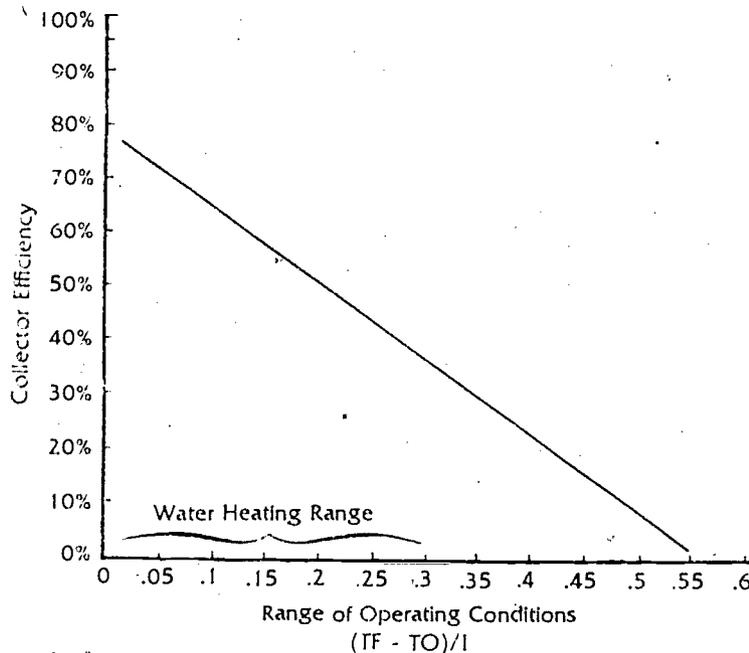
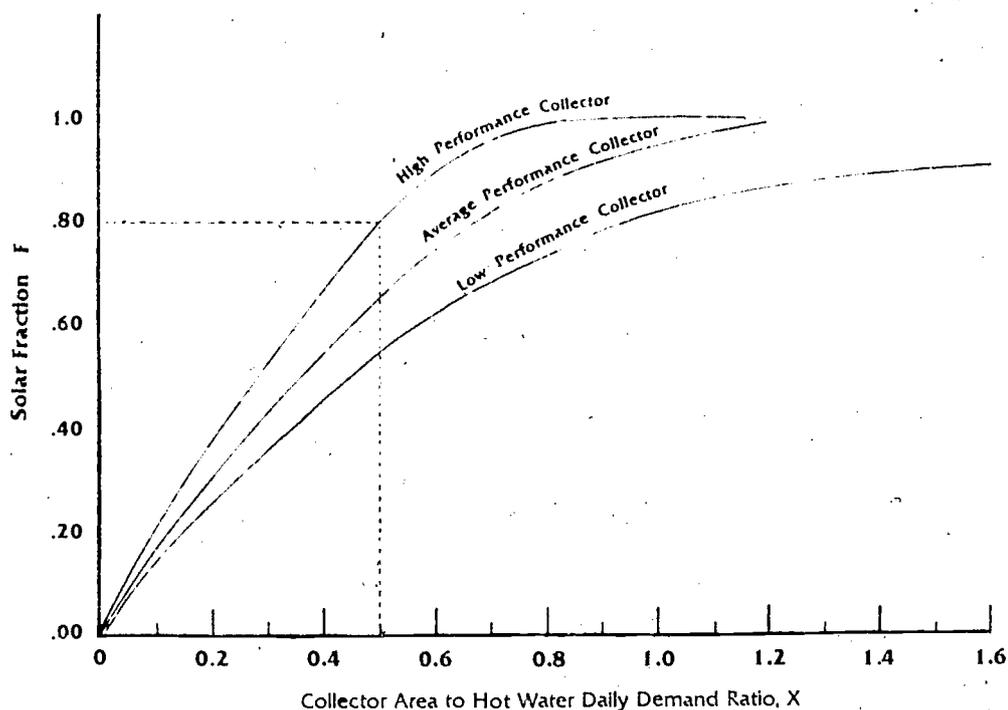

Figure VI-2 ASHRAE 93-77 COLLECTOR EFFICIENCY CURVE
Figure VI-3 SOLAR COLLECTOR SIZING GRAPH
The ASHRAE Standard 93-77 test method for determining collector efficiency is also presented in the form of an easy to understand graph. A sample graph, giving the efficiency of a collector at various operating conditions is shown below in Figure VI-2. Operating conditions means the sunlight available, air temperature and inlet water temperature to the collector. Since these conditions change constantly throughout the day, there is no single efficiency value for a collector. However, there is a certain normal range of operating conditions which can be looked at and used to compare collectors.
It is important to compare the efficiencies of collectors for only the range of operating temperatures in which they will be required to perform. For domestic water heating, only the range of operating temperatures from .0 to .3 should be considered. Beyond this point operating conditions become too extreme. However, some concentrating collectors can effectively operate in this range. For example, Figure VI-2 shows a typical efficiency curve for a solar collector.
- Step 2. (A) To determine the basic collector area A, Figure VI-3 should be used. Before using this graph a determination of the collector performance desired or being considered should be made. As has been pointed out by Figure VI-2 the average performance or efficiency of a collector can be determined by examination of a collector efficiency curve. Since the collector operating range for solar water heating systems lies between .0 and .3 on the horizontal axis of this curve, halfway or .15 would give the average collector efficiency. For example, the following are two examples of an efficiency curve from the promotional literature of two company's collectors. Looking at .15 on the horizontal axis and going up to the efficiency curve, we see that the collector on the left has an average efficiency of .68 or 68% and the collector on the right has an average efficiency of .55 or 55%. A rating of the collector's efficiency can then be made.
Efficiency	Efficiency Rating (for use of sizing graph Figure VI-3)
Once the collector has been rated as high, average or low, Figure VI-3 can be used to determine the basic collector area (A). Using the preferred solar fraction (F) on the left side of the graph and choosing a collector with the desired rating, determine (X) on the horizontal axis. When this number, (X) is multiplied times (G) the gallons of hot water used per day, the result is (A) the basic collector area.
Step 2. Collector efficiency varies from manufacturer to manufacturer. Figure VI-3 presents collector efficiency curves obtained from the F CHART method by using data obtained from ASHRAE Standard 93-77 tests and the 1980 U.S. DOE Solar Collector Test Program for 163 different collectors. The water set temperature is 140°F, and the supply temperature is 60°F. Storage is 1.5 gallons per square feet of collector area.
Example 3 in this chapter describes how to read the graphs. The dotted lines on Figure VI-3 show that for an 80% solar system ($F = .80$) one would need .50 square feet of high performance collector for every gallon of hot water per day of demand. Thus, for the Jones family of four with a hot water demand of about 86 gallons per day, one needs $86 \times .50 = 43$ square feet of high performance collector.
We assume that a high performance collector is used. 80% solar means $F = .80$. Since the location is Phoenix, the collector tilt and orientation are optimum, and 140°F water is desired. This example will only require determining the basic collector area (A) from Figure VI-3. Go to Figure VI-3. On the vertical (marked F) axis of the graph, find the point corresponding to $F = .80$ and draw a horizontal line from that point until it meets the curve marked "High". Draw a vertical line down from the curve and find the point where the vertical line intersects the horizontal axis (X). Read that point as $X = .50$.
2. Select a collector from Figure VI-3
2. Select a collector from Figure VI-3 and determine X.